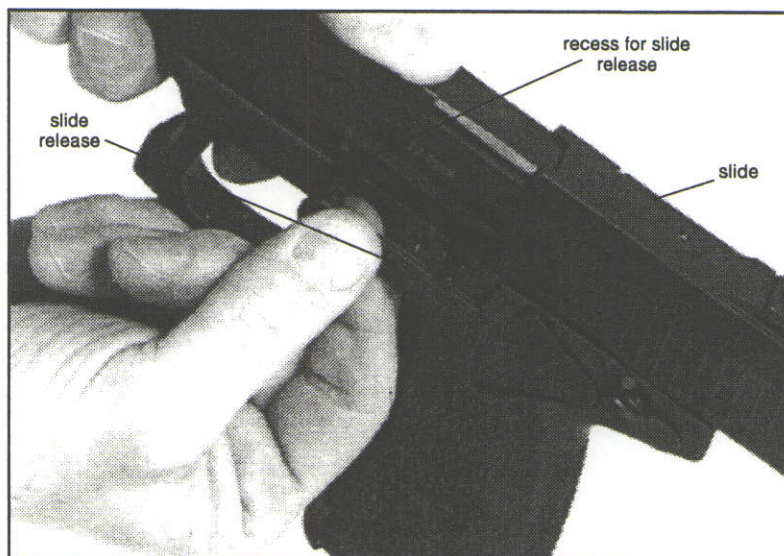

Figure 11
4. Using the left hand, retract and hold the slide to the rear approximately 22 mm until the front end of the slide lock is centered on the recess visible on the left side of the slide (See Figure 11).